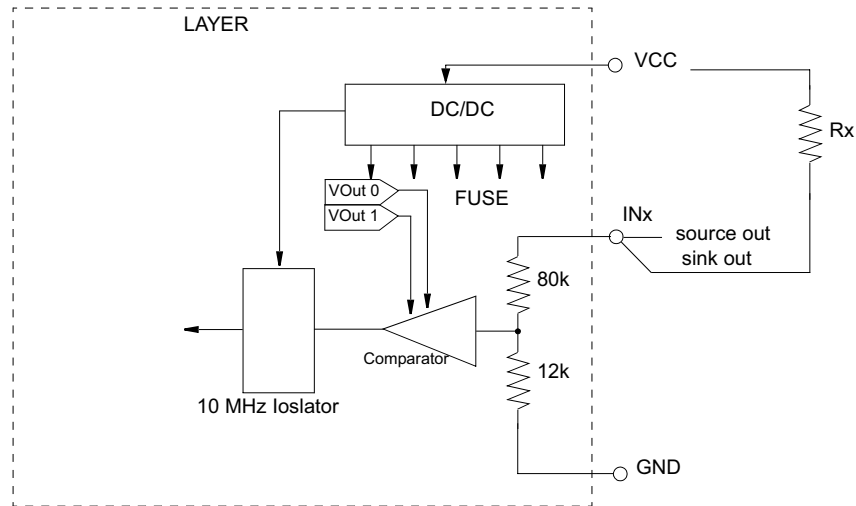

Figure 1-6. Typical Input Circuit Diagram
1.4.1.1 Input Circuits Each input circuit is built as shown in **Figure 1-6**.